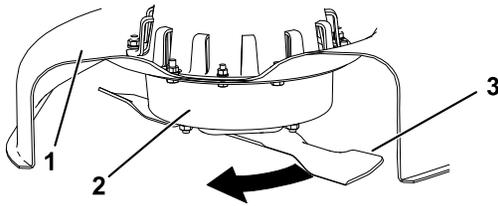

Figure 31
2. While wearing thickly padded gloves, or other adequate hand protection, slowly rotate the blade into a position that allows you to measure the distance between the cutting edge and the level surface the machine is on (Figure 31).